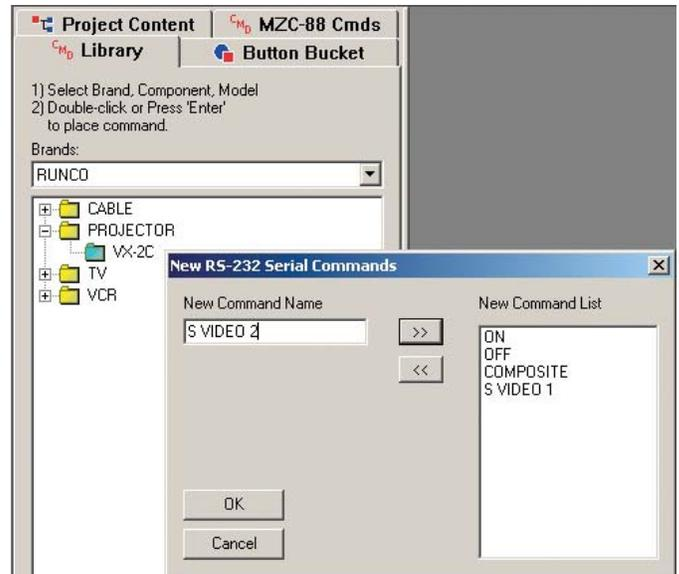

Figure 9
6. Right click the new model # folder (i.e., VX-2c). Go to **“New Commands”** and left click **“RS232 Serial Commands”**. Type in command name (i.e., **ON**) and left click right arrows (>>) to put the name in the New Command List. Type in a complete list of command names (i.e., ON, OFF, COMPOSITE, S VIDEO 1, S VIDEO 2, etc.) as needed. (Refer to **Figure 9**)